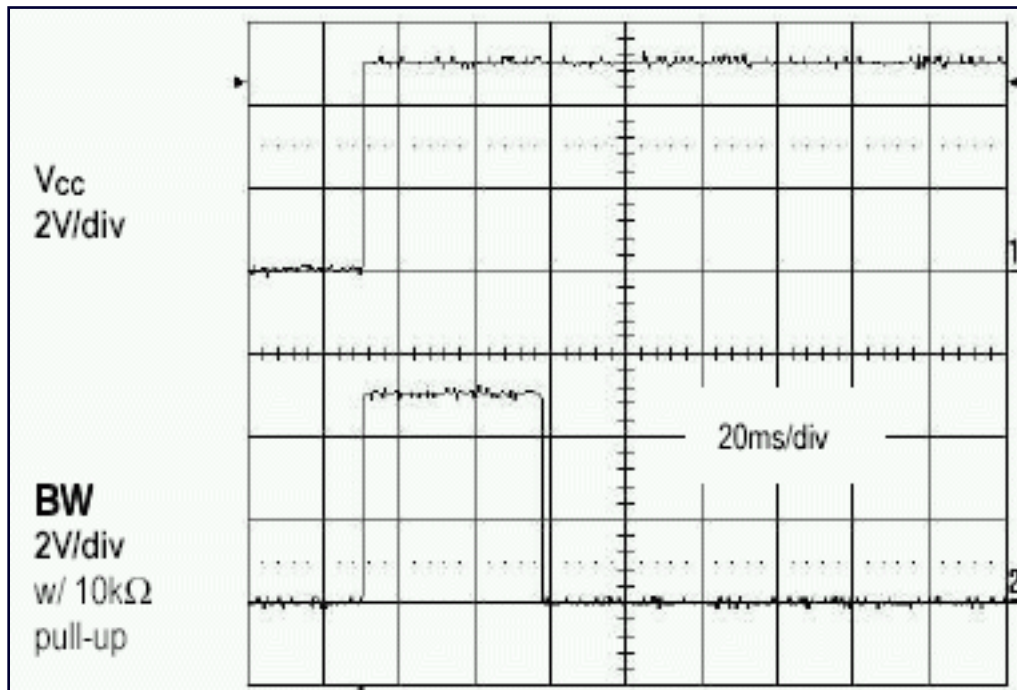
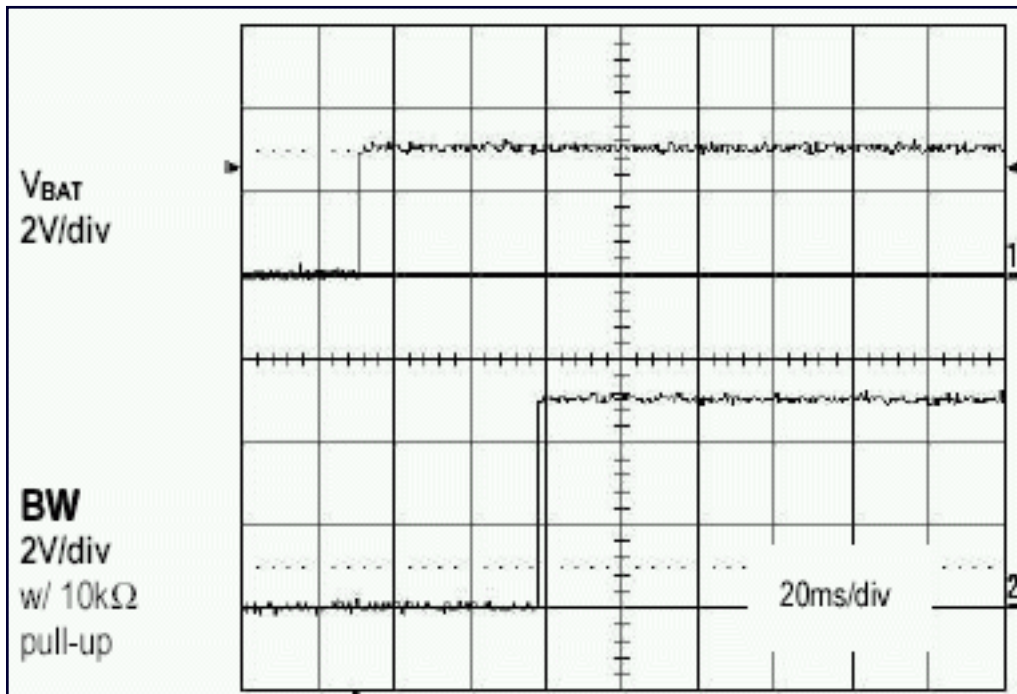

Figure 2. Power-On Battery Test Fails ($V_{BAT} = 2.55V$)
Figure 3. Battery Test Passes with Fresh Cell ($V_{BAT} = 3.15V$)
At power-up, and again approximately every 24 hours, an internal 1M Ω test resistor is connected across the battery terminals for one second and the battery voltage is sampled. During that one second period, should the battery voltage (V_{BAT}) fall below a factory-programmed battery warning trip-point ($\sim 2.6V$), the battery warning output (BW) will be asserted. (see Figure 2) Once asserted, battery testing will be performed approximately every 5 seconds to detect battery removal, and BW will remain active until the weak battery is physically removed and replaced with a fresh cell. Once a fresh cell has been attached, the first passing test result will deassert the BW output and the test interval will return to 24 hours. (see Figure 3) BW is an open-drain output driver.